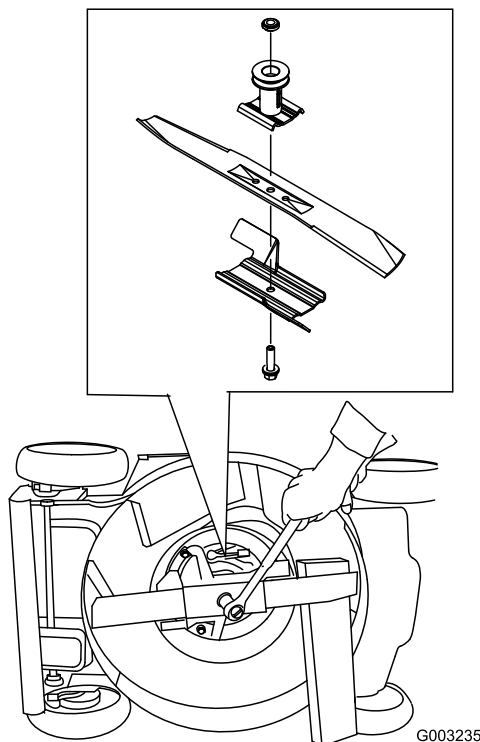

Figure 41
3. Use a block of wood to hold the blade steady (Figure 41).